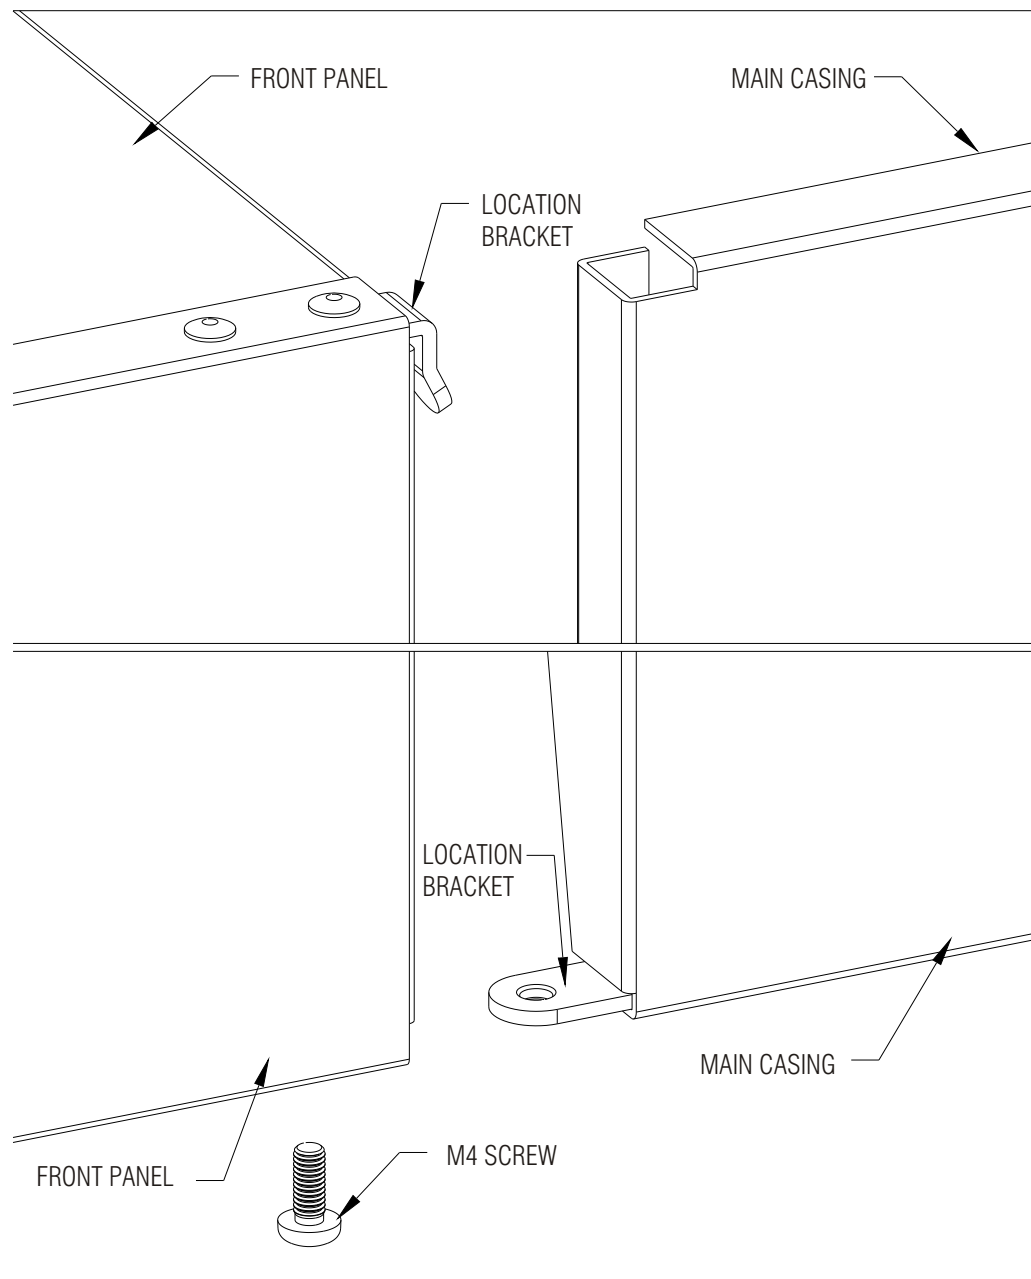

Figure 5B
- i) Unpack the boiler, remove the front panel and stand to one side. The front cover is held by 2 fixing screws under the bottom of the boiler and 2 hooks at the top of the boiler (see figure 5B).
The following instructions assume that the front panel has not yet been fitted. If it has been fitted, unscrew the 2 fixing screws located in the bottom face of the boiler, take hold of the front panel at the bottom and gently pull towards you. This will disengage 2 location tongues (one either side). The front panel can now be lifted to disengage the hooks at the top, the panel may then be moved clear and placed to one side (see fig.5B).
- i) To fit the boiler front casing, lift it over the boiler and locate the two top brackets into the slots in the upper rear panel (see Figure 5B)
- ii) Locate the two lugs at the bottom by pushing backwards towards the wall and replace the 2 fixing screws (see fig 5B) making sure that they are tight.